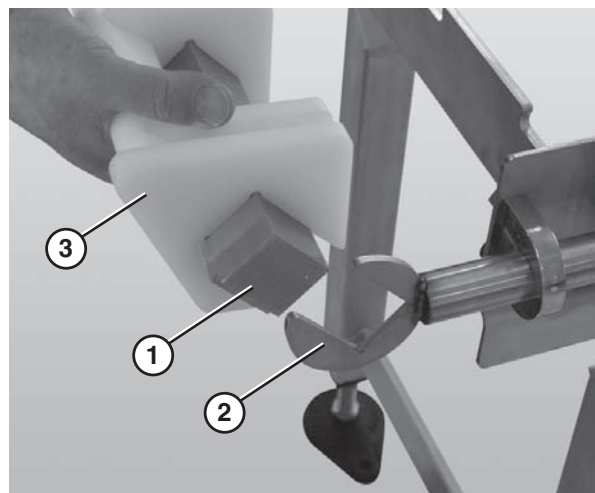

Figure 69
1. Slide the nose bar drive or transfer post (**Figure 69, item 1**) out of the nose bar drive weldment or idler hands (**Figure 69, item 2**).
2. Remove the nose bar tracking pucks (**Figure 69, item 3**), if applicable.